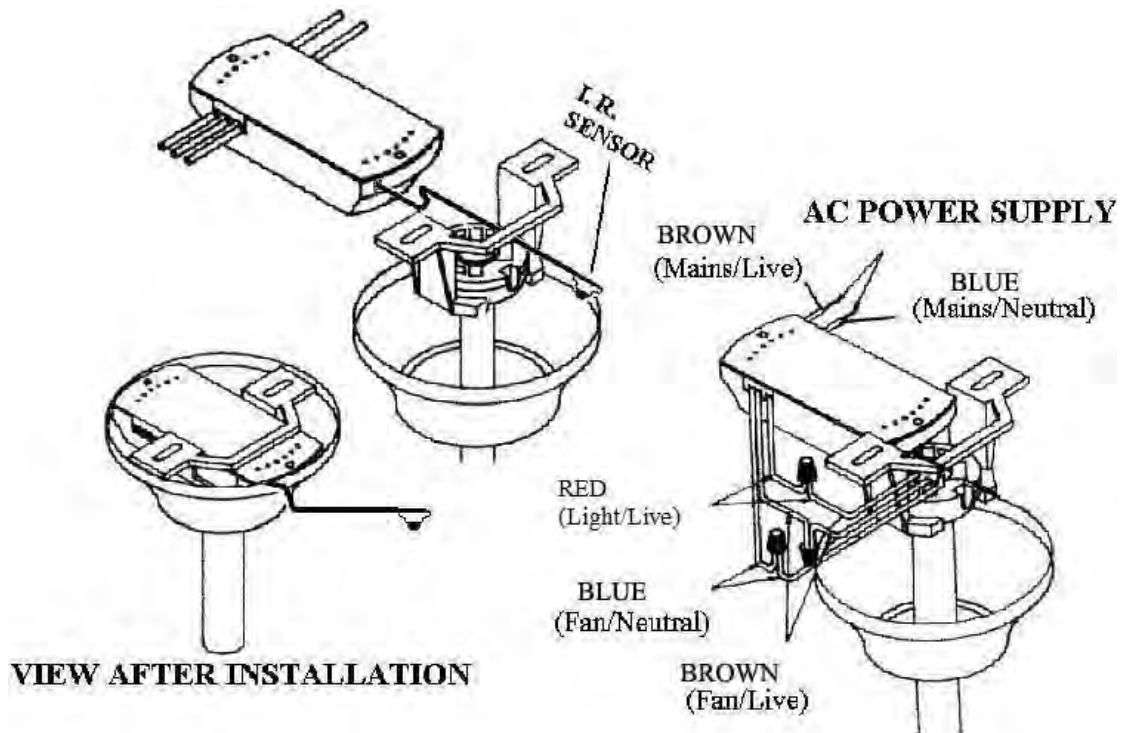

Fig. 1.2
3. Once the connection has been made, the receiver needs to be inserted into the drop rod hanging bracket. The canopy comes up to cover the receiver and bracket (Fig. 1.2).